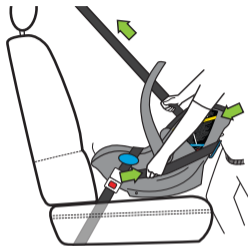

Figure 71
- Use your body to push and wiggle the Carrier into the vehicle seat back while pulling shoulder belt to remove all slack, as shown in **Figure 71**.